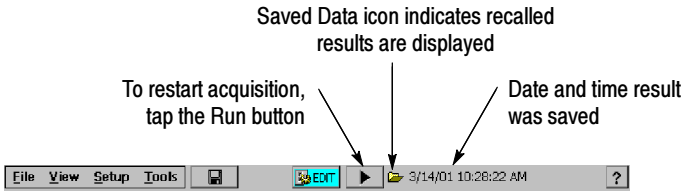

Figure 3-70: Example of a Recalled Result display
3. Select the results file to recall and tap **OK**. The Cammand bar shows results information. See Figure 3-70.